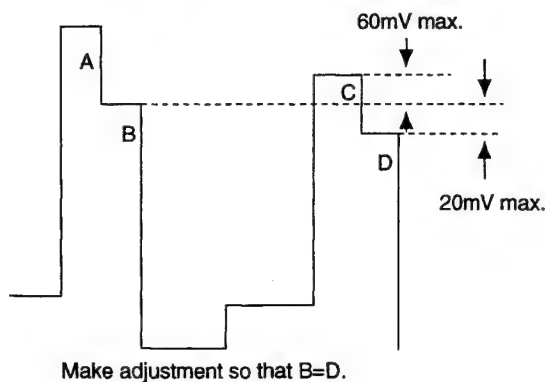

Fig. 5-20
- 2) Connect the probe of an oscilloscope to IC404 ④①PIN or TP401.
- 4) Adjust **R-Y LEVEL PAL** so that the peaks of waveforms will be flush with each other as shown Fig.5-20.